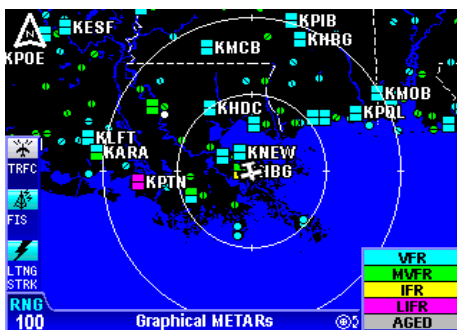

Figure 2-30
1. Press the **WX** Function Select Key until the FIS Graphics Page is displayed. If necessary, turn the Rotary Knob to obtain the Graphical METAR display similar to Figure 2-30. **Graphical METARs** will be displayed at the bottom of the display.